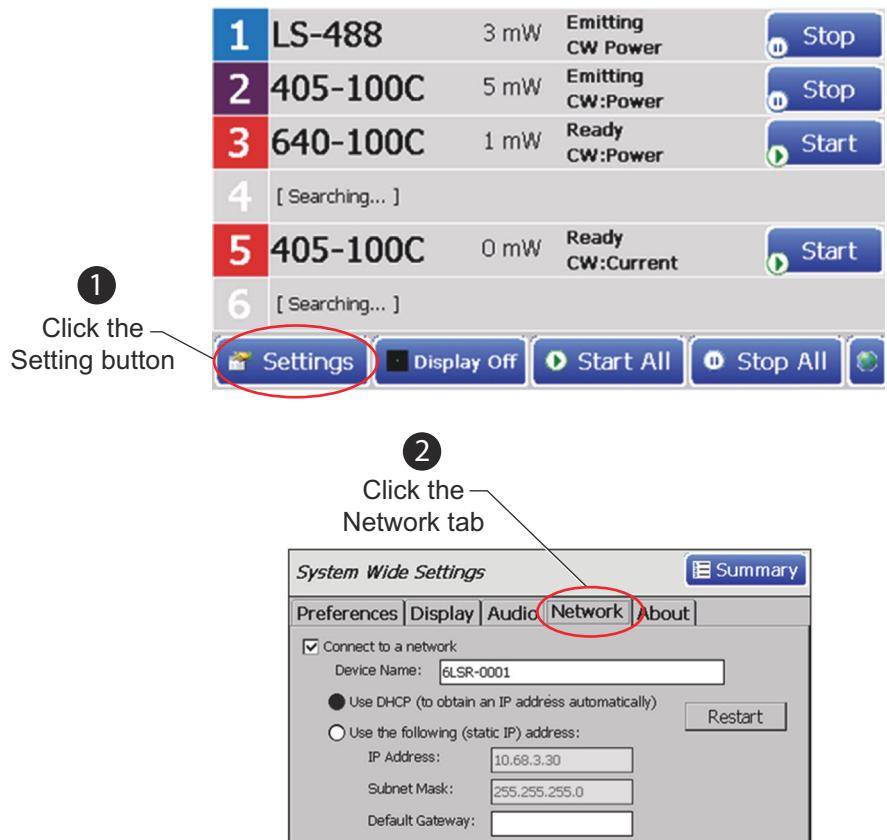

Figure 3-18. Configure the OBIS Scientific Remote
1. Configure the Scientific Remote, as shown in Figure 3-18.